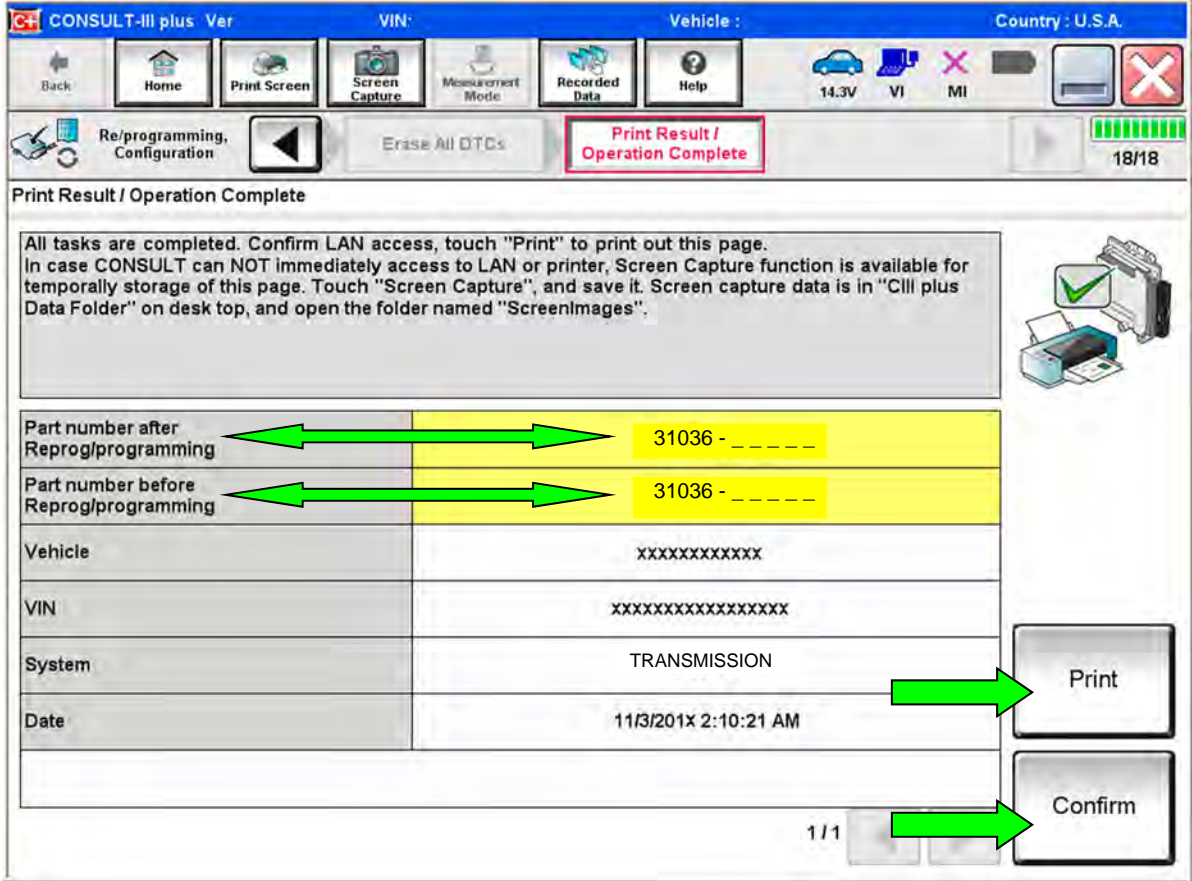

Figure 162
- 145. When the entire reprogramming process is complete, the screen in Figure 162 will display.
- 147. Print a copy of this screen (Figure 162) and attach it to the repair order for warranty documentation.